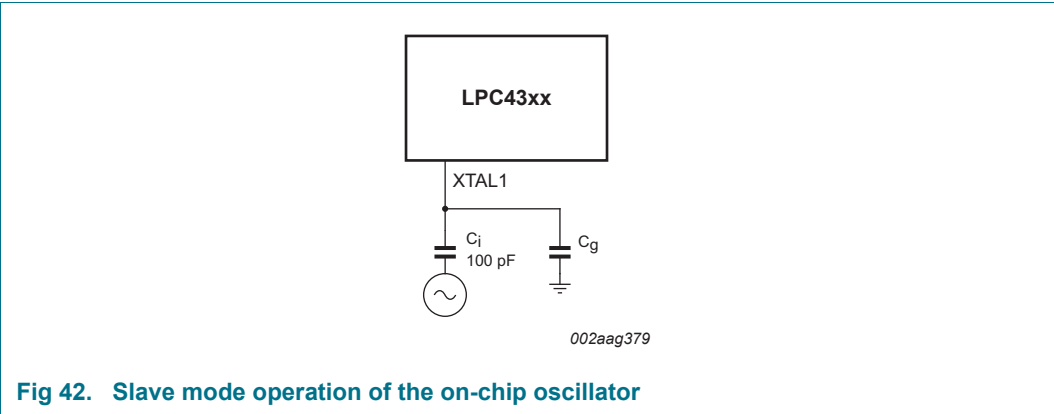

Fig 42. Slave mode operation of the on-chip oscillator
- In slave mode, couple the input clock signal with a capacitor of 100 pF (C_C in Figure 42), with an amplitude of at least 200 mV (RMS). The XTAL2 pin in this configuration can be left unconnected.
An external clock can be connected to RTCX1 if RTCX2 is left open. The recommended amplitude of the clock signal is $V_{\text{i(RMS)}} = 100$ mV to 200 mV with a coupling capacitance of 5 pF to 10 pF. $V_{\text{i(RMS)}}$ must be lower than 450 mV. See Figure 42 for a similar slave-mode set-up that uses the crystal oscillator.